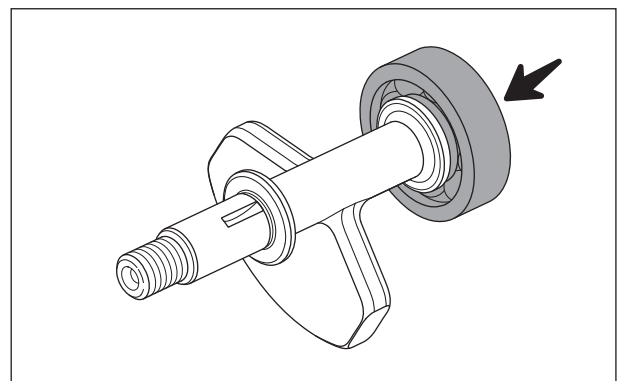

Fig. 3.174
- Inspect the balancer shaft bearing for free rotation and any abnormal noise. If found any replace the bearing. (Fig. 3.174)